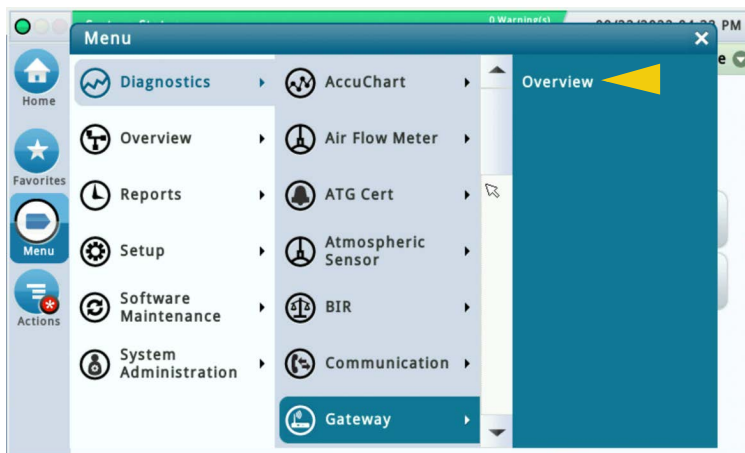
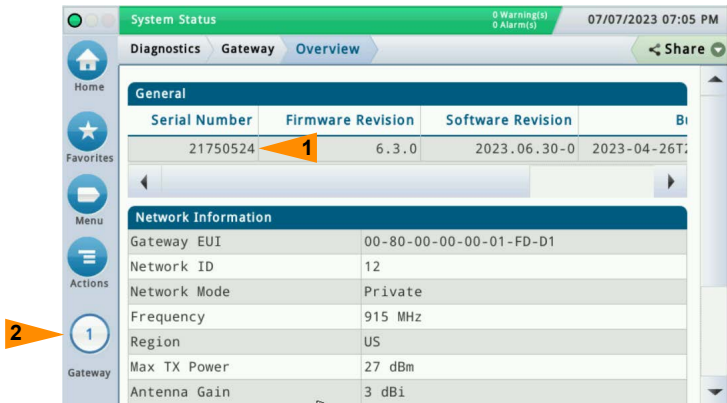

Figure 46. Accessing Gateway Diagnostics Overview Screen
Figure 47. Example Gateway Diagnostics Overview Screen – Page 1
1. Select Menu>Diagnostics>Gateway>Overview (see Figure 46) to access the Gateway Diagnostics Overview Screen (see Figure 47 and Figure 48). Select the Gateway to view information from (Item 2, Figure 47).
2. Scroll down to view the rest of the screen (see Figure 48). The Gateway S/N shown in the example below will be the S/N you entered when registering the Gateway (ref. Item 1, Figure 47).